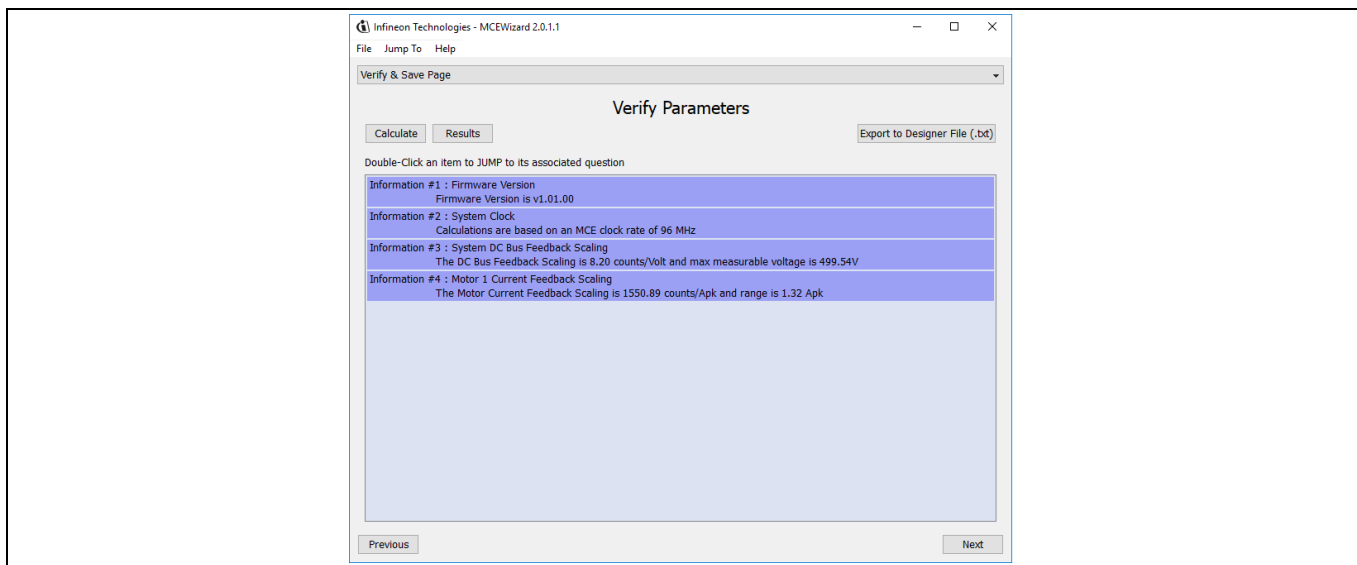

Figure 22 MCEWizard Verify and Save page
3. After system and operating parameters are set, go in the “Verify & Save Page” and click on “Calculate” button. If no errors are reported, it is possible to save the drive parameter set into your project directory by clicking “Export to Designer file (.txt)” (Figure 22); if some error is detected, double click on the error message (highlighted in red) and adjust the related parameter. Saved Drive System Parameter File will be later used by the MCEDesigner.